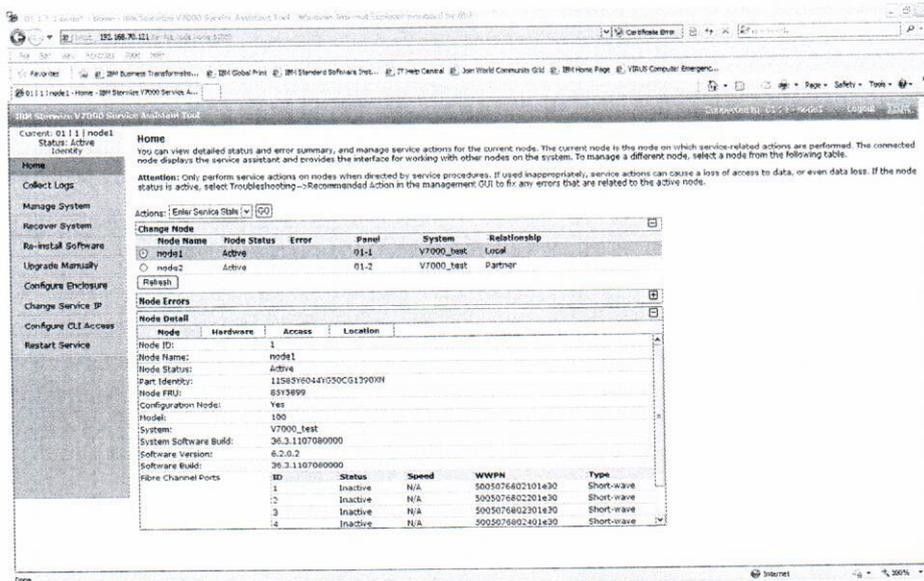

Figure 12 Service management WEB page
14) The service Management WEB page will open. (Figure 12)